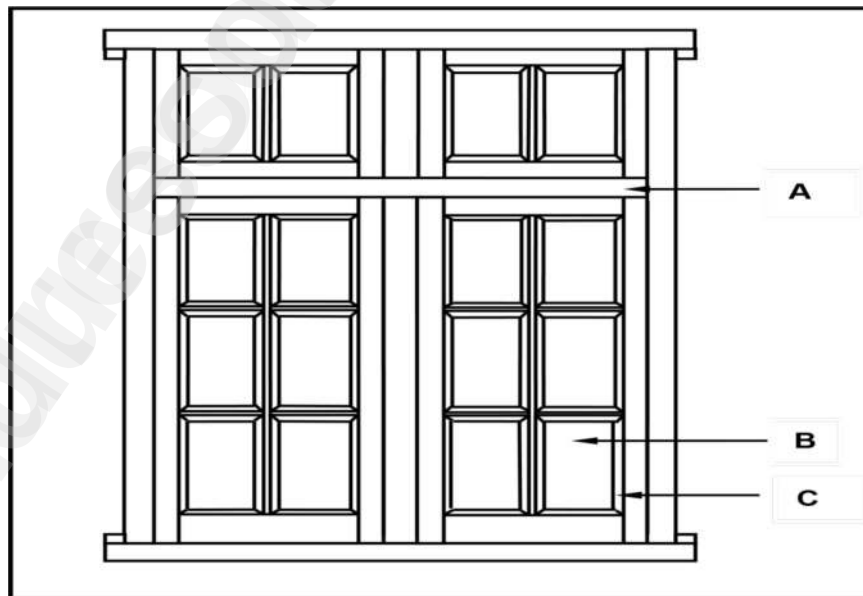

FIGURE 3.2
- 3.2 FIGURE 3.2 shows an external elevation of a double casement with fanlights. Study the figure and answer the questions that follow.